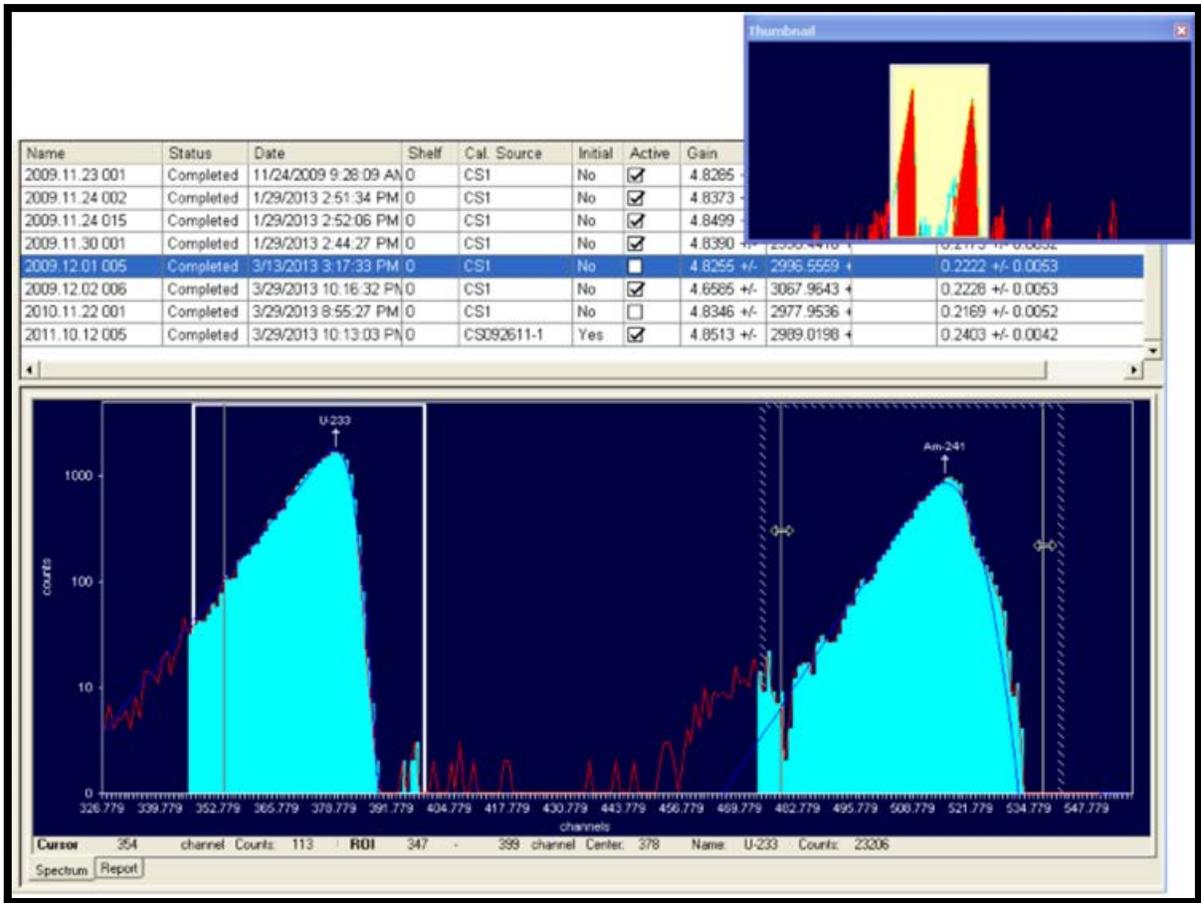
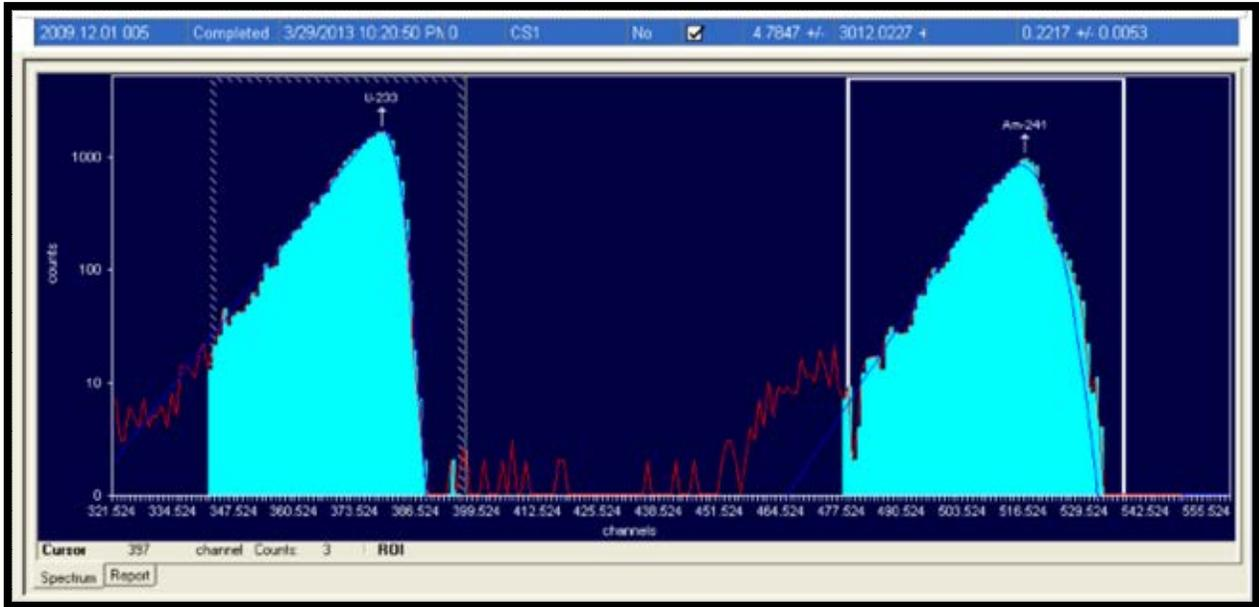

Figure 47. Zoom In on the Peaks and Click and Drag the Two-Sided Arrow to Adjust the Low- and High-Channel ROI Boundaries
Figure 50. Recalibration Calculated, Analysis Date/Time Updated
- 2) Click in the first ROI to be adjusted to activate it. The active ROI has a *dashed border* and inactive ROIs have *solid borders*, as shown in Figure 47.
- Figure 50 shows the entry in the Calibration Explorer with the updated calibration coefficients and analysis **Date/Time** (compare to the highlighted entry in Figure 47).